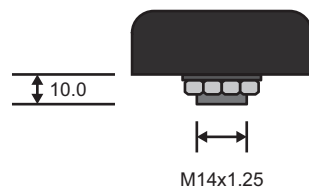

Figure 63 Antenna Cap — Dimensions
2. Cut a hole in the surface that will allow the cable to be thread through the surface. The cap will rest above the surface. Refer to **Figure 63** for dimensions.